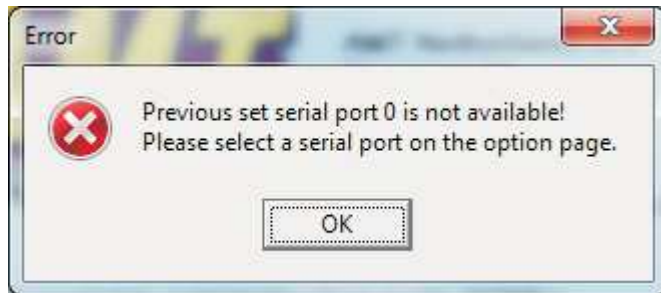

figure 8.9
3. If the COM port was not set or detected, an error message will be displayed (fig. 8.9) and the correct COM port must be set as described in paragraph 8.3.